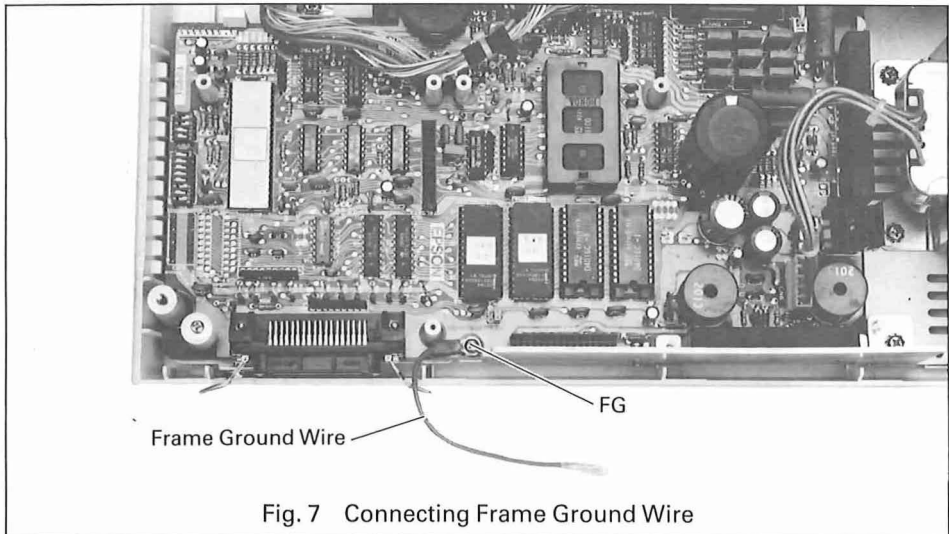

Fig. 7 Connecting Frame Ground Wire
(7) Connect one end of the Frame Ground wire (Round Chip) contained in the shipping package of this interface as an accessory to the frame ground terminal. (See Fig. 7.)